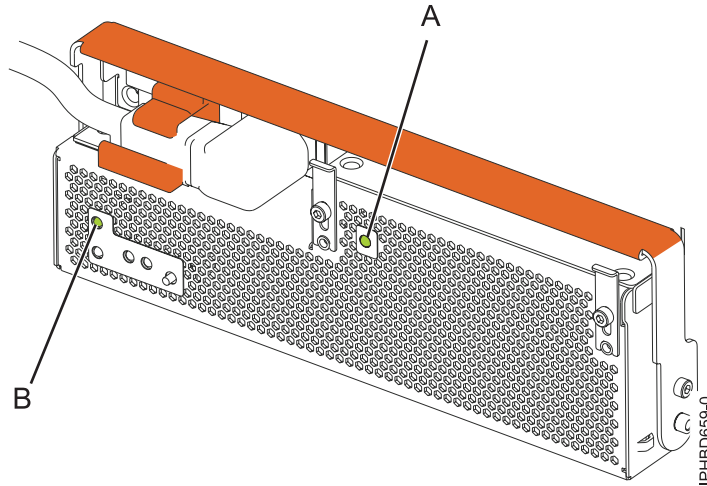

Figure 42. Expansion unit ac power and OCA power LEDs
9. Note the state of the green ac power in **(A)** and Offline Converter Assembly (OCA) power light-emitting diodes (LEDs) **(B)** shown in Figure 42 on page 65, and do one of the following actions, as applicable: